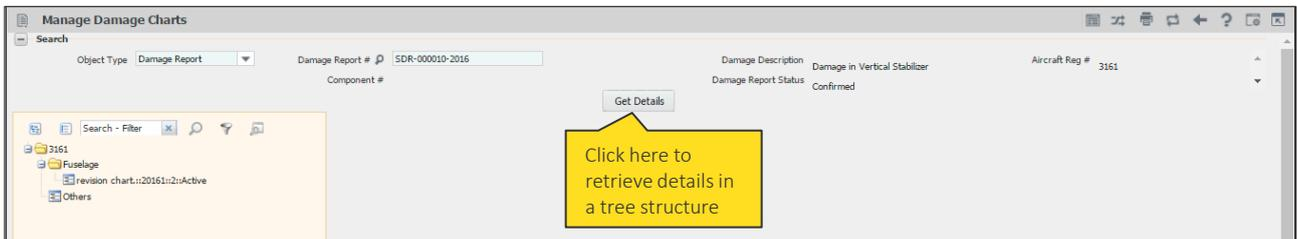

Figure 3.4 Managing damage charts
1. Select the option **Damage Report** against which charts have been uploaded, from the **Object Type** drop down list box. See Figure 3.4.